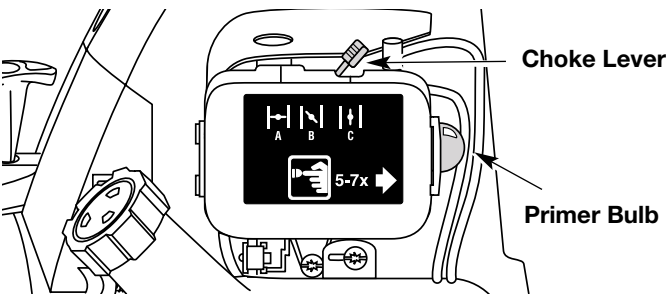

Fig. 22
4. Place the choke lever in the **FULL** choke (A) |←| position (Fig. 22).
**NOTE:** Slide the choke lever directly above the appropriate symbol on air filter cover decal (Fig. 22).
5. Fully press and release the primer bulb slowly 7 times. Gasoline should be felt and visible in the bulb (Fig. 22). If gasoline has not entered the bulb, press three more times, or until it does.
8. Move the choke lever to the **PARTIAL** (B) |↘| position (Fig. 22).
**NOTE:** The engine will not run in the **FULL** choke (A) |←| position.
10. Move the choke lever to the **RUN (C)** |↑| position and run at full throttle for 30 seconds.
2. Move the choke lever to the **PARTIAL** (B) |↘| position (Fig. 22).
3. Fully press and release the primer bulb slowly 7 times. Gasoline should be felt and visible in the bulb (Fig. 22). If gasoline has not entered the bulb, press three more times, or until it does.